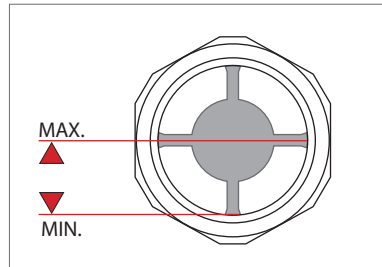
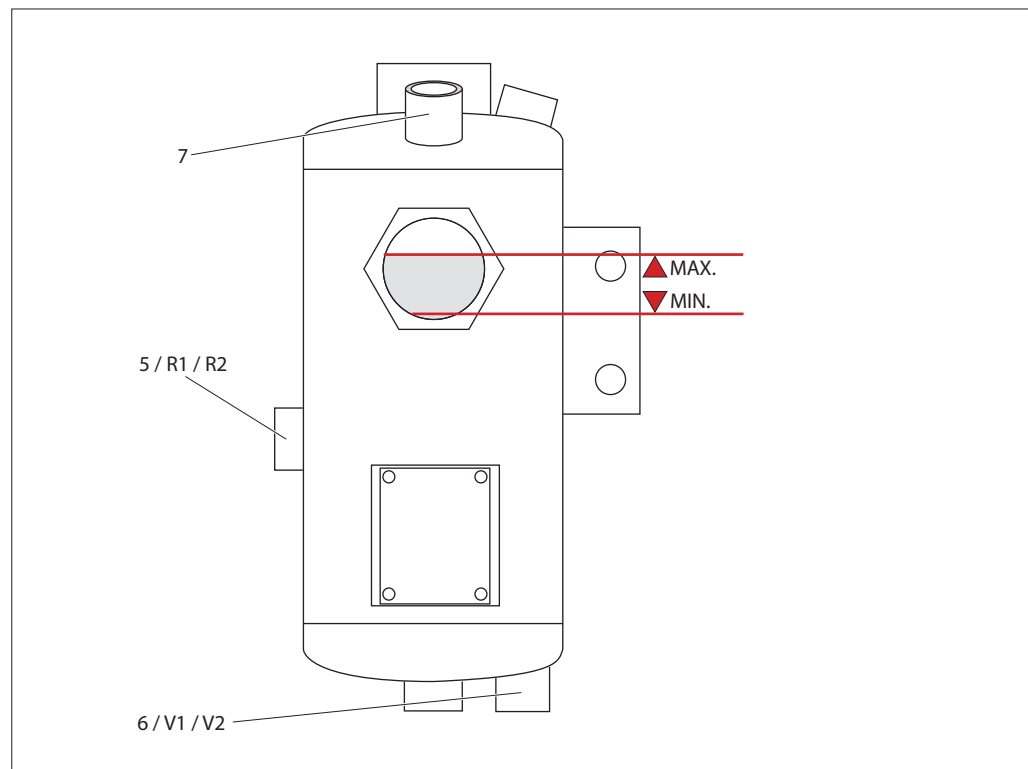
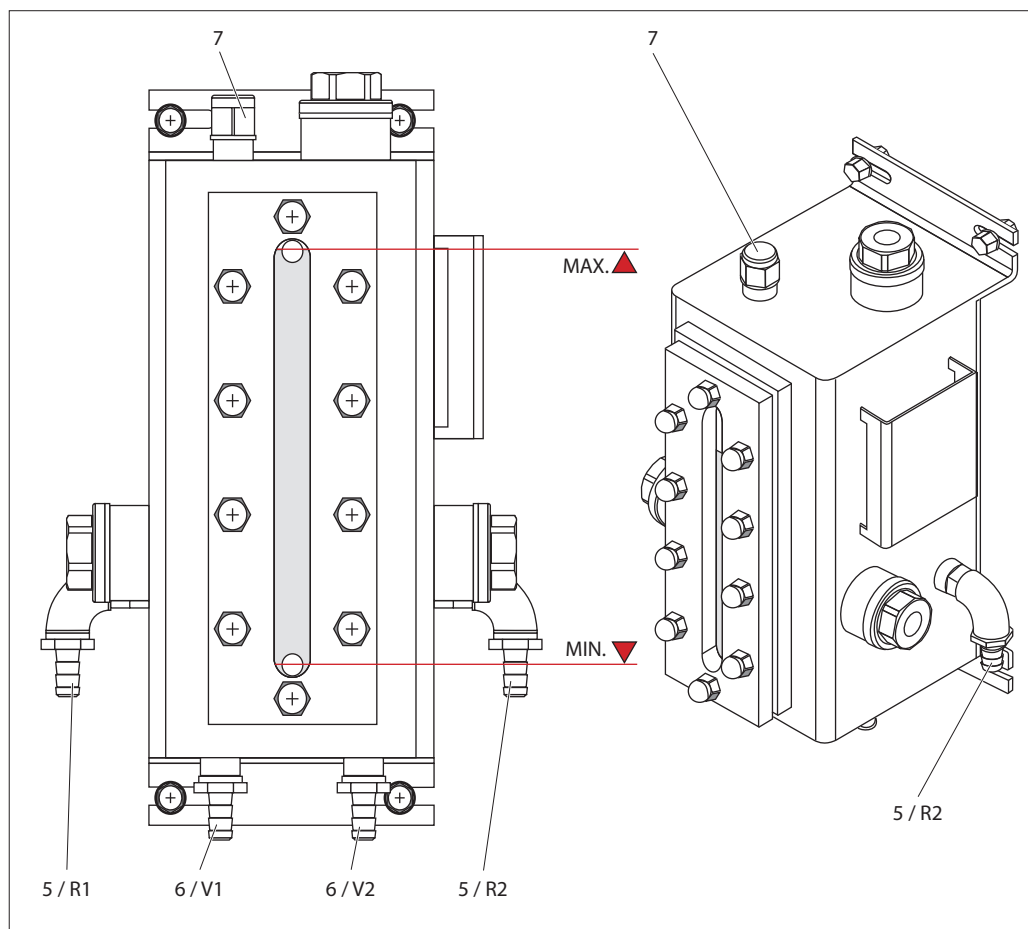

Fig. 9.1: Oil filling level glass
Fig. 9.2: Sealing pressure tank with connection options – Front view. See Chapter 13.24 for full list of spare part names
Fig. 9.3: Storage tank with connection options – Front and oblique views. See Chapter 13.25 for full list of spare part names
The quench medium filling level must always be above the minimum filling level during operation, otherwise convection flow circulation will be interrupted (see Fig. 9.1, Fig. 9.2 and Fig. 9.3).
Venting the sealing chamber and pipelines through the storage tank (see Fig. 9.2 and Fig. 9.3):
Fully vent the entire system (sealing chamber/mechanical seal/pipelines) and refill so that it is bubble-free (see Fig. 9.2 and Fig. 9.3):
- ▶ See Fig. 9.2